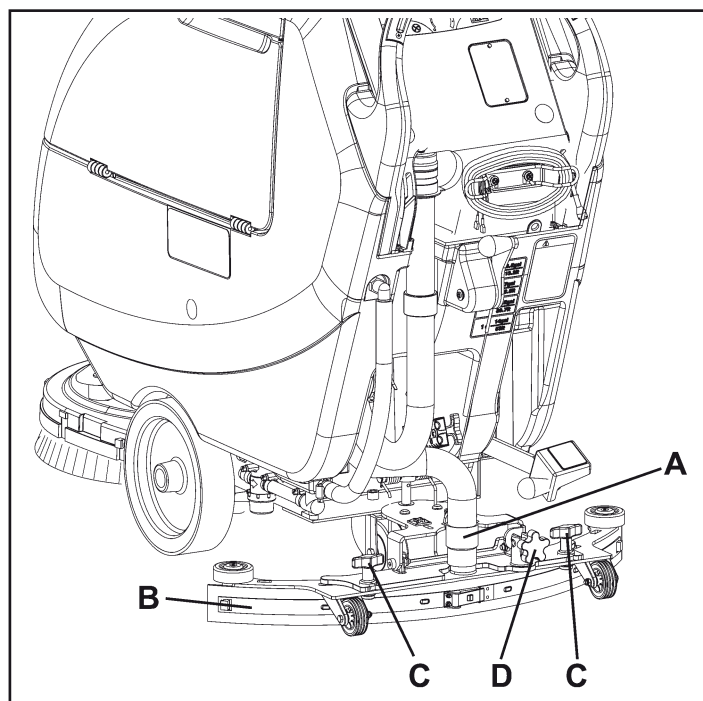

Figure 27
4. Connect the vacuum hose (A, Fig. 27) to the squeegee.
5. Install the squeegee (B) and screw down the knobs (C).
6. If necessary, adjust the squeegee balance adjusting knob (D).